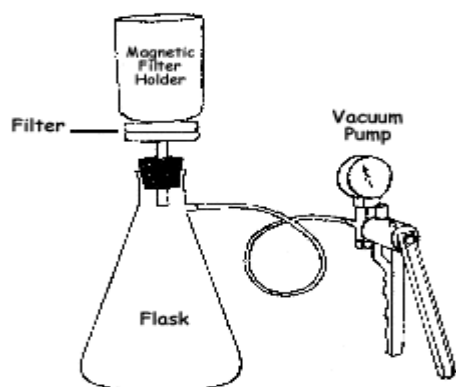

Figure 1. Magnetic Filter Funnel apparatus
2. Set up the Magnetic Filter Funnel apparatus without the funnel head. (See Figure 1)
1. Set up the Magnetic Filter Funnel apparatus without the magnetic filter holder. (See Figure 1)